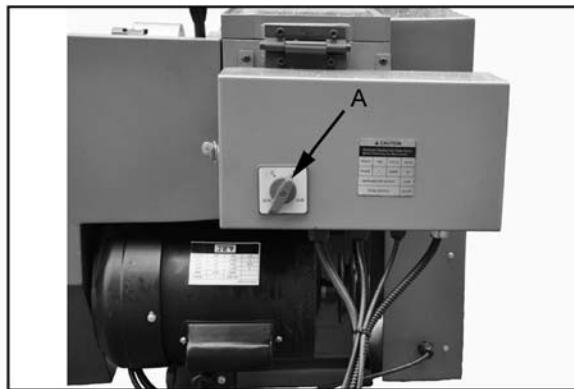

Figure 14
1. **Main On-Off Switch** (A, Fig. 14) – Power is off in the “0” position and on in the “I” position.